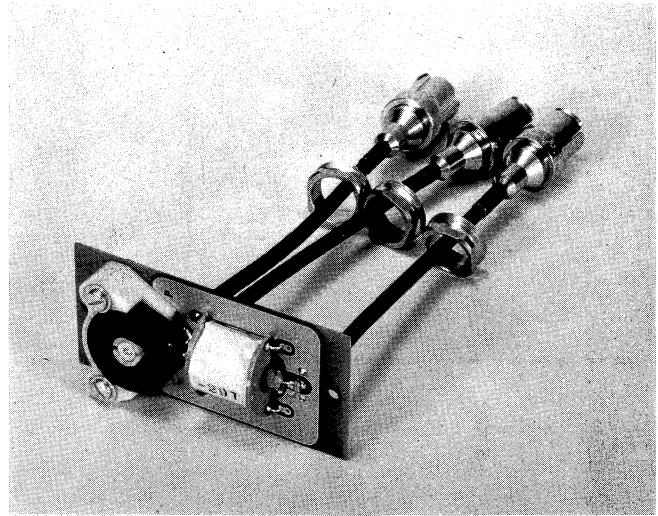

Fig. 3-2. Complete switch assembly.
5. Place a new checked assembly in position and secure it with the two 6-32 screws (Fig. 3-2).